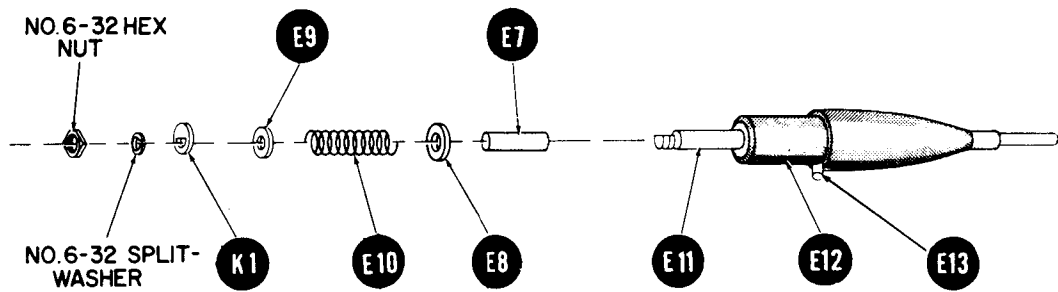

Figure 1
1. ( ) Figure 1. Slip the small diameter fiber tube E7 over the metal stud E11 protruding from the nosepiece assembly.
2. ( ) Figure 1. Slip the large diameter fiber washer E8 over E7 and seat it on the blunt end of nosepiece E12.
3. ( ) Figure 1. Slip the compression spring E10 over the fiber tube E7.
4. ( ) Figure 1. Hold the spring E10 compressed so that the threaded end of the metal stud E11 is exposed. In the order given, slip the following parts over the threaded end of the stud: the small diameter fiber washer E9, the brass rotor contact K1, the No. 6 split washer and the No. 6-32 hex nut. Tighten the nut and then release the spring.